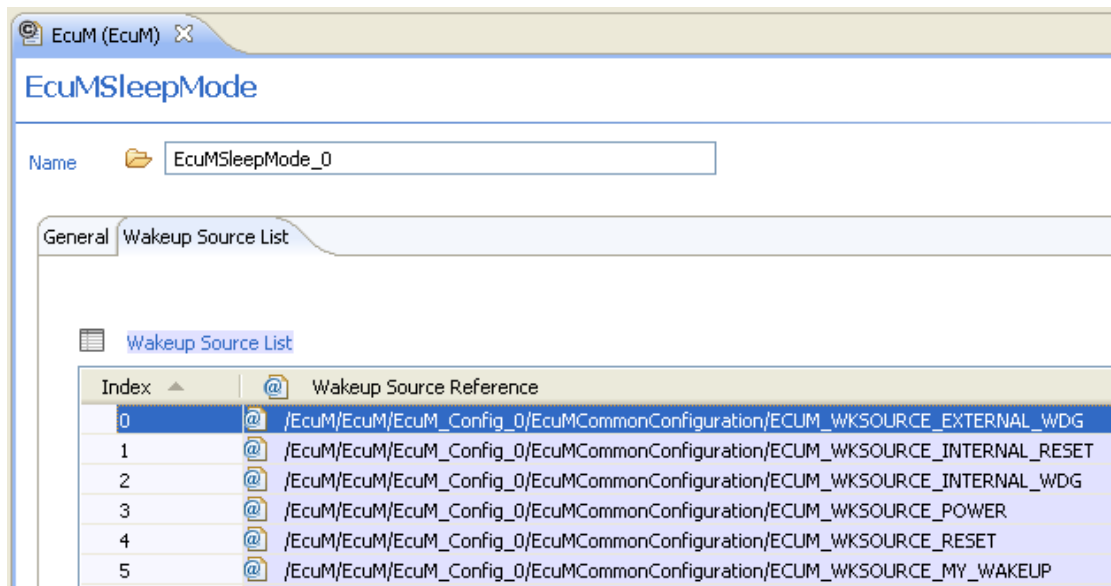
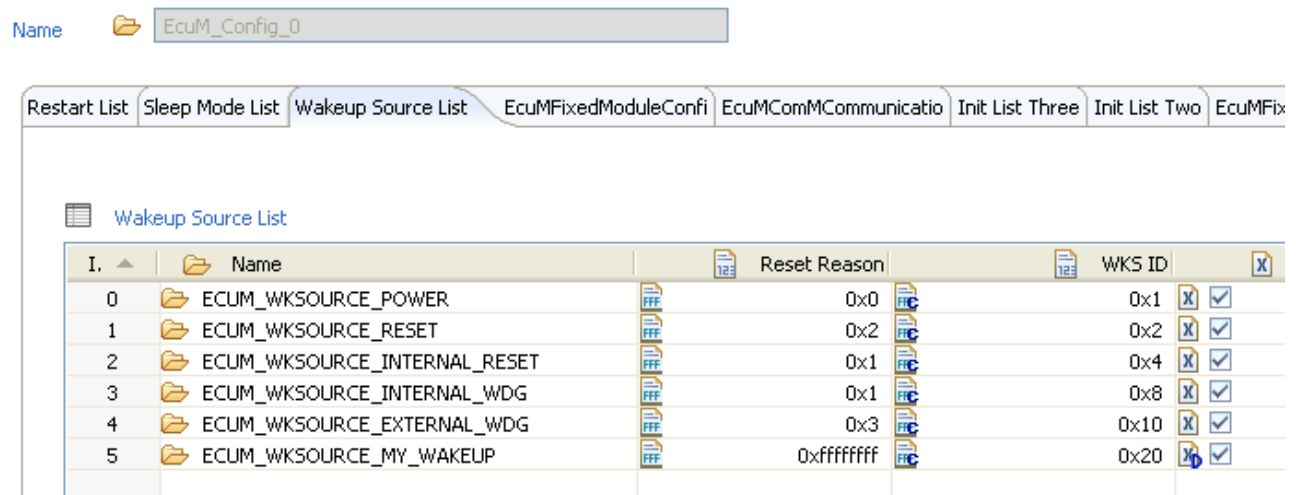

Figure 4.8. Configuring the **Wakeup Source List**
Figure 4.10. Configuring the **Sleep Mode List**
- ▶ To configure the `Ecum` module for the `sleep` mode, configure the `sleep` mode list by registering all wake-up sources for this `sleep` mode, as shown in Figure 4.8, “Configuring the Wakeup Source List”.
During sleep mode, the EcuM reacts on wakeup events which are configured for the sleep mode. Therefore, the wakeup events have to be configured in the EcuM *Wakeup Source List* as shown in Figure 4.10, “Configuring the Sleep Mode List”. Additionally, the wakeup events must be referenced from the *Sleep Mode List* configuration as shown in Figure 4.8, “Configuring the Wakeup Source List”.